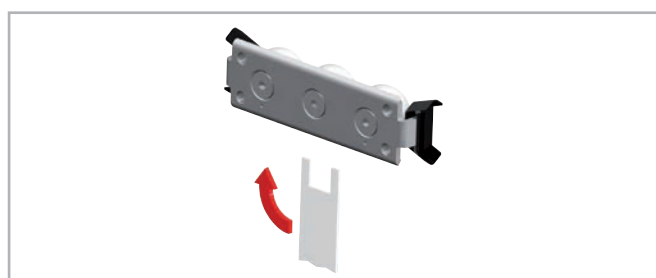

Fig. 67
- (5) For the U-rails there must be a thin support (e.g. set key) under the ends of the slider body to ensure the horizontal alignment of the slider in the flat raceways.
- (6) The adjustment can take place at any point on the rail. If possible, position the slider at one end of the rail to simplify insertion of the flat spanner.
- (7) Insert the flat spanner supplied to the side and use it to engage the hexagonal or square shaft of the eccentric pin to be adjusted (see fig. 67).
- (8) Turn the flat adjustment spanner clockwise so that the excentric bearing contacts the raceway opposite the factory-set fixed bearings, thus reducing the slider clearance to zero. Avoid applying a too high preload, which would cause high wear and reduce service life.
- (9) While holding the pin in the correct position with the flat adjustment spanner, tighten the fixing screw to ensure that the pin is locked in position.
- (10) Run the slider and check the preload over the entire length of the rail. The movement must be smooth. If any oscillation/clearance or excessive force is observed, repeat the adjustment operation. Preload is optimized when the slider runs smoothly and without play.
- (11) Preload values can be checked by slowly inserting the slider at the end of the rails. The insertion force is proportional to the preload. Preload is optimized when the slider runs smoothly and without play.
- (12) For sliders with more than 3 bearings, repeat this procedure for each one to be adjusted. Ensure that all bearings have uniform contact with the raceways.
- (13) While maintaining the angular position of the pin with the flat spanner, tighten the adjusted bearing fixing screw with a torque spanner. The prescribed tightening torque is shown in table 51.
- (14) Reinstall the wipers.